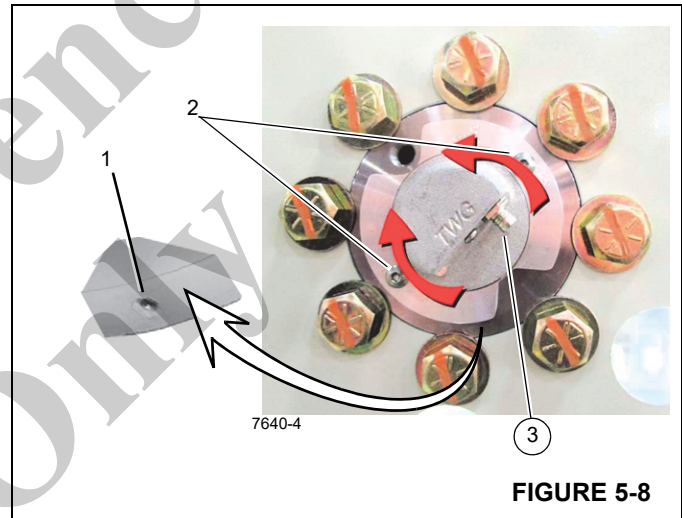

FIGURE 5-8
7. Loosen the set screw (1, Figure 5-8) on the side of the DRI flange.
8. Using the spanner wrench holes (2, Figure 5-8) rotate the DRI so that the connector (3) is pointed down.
9. Tighten the set screw (1, Figure 5-8) after the DRI is positioned as desired.